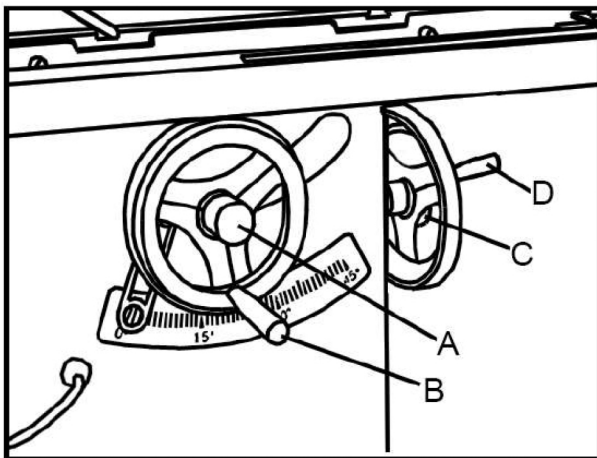

Fig.21
To raise or lower the blade, loosen lock knob (A) As Fig 21 and turn the raising handwheel (B). When desired height is obtained, retighten lock knob. The blade should be raised 1/8" to 1/4" above the top surface of the material being cut. With hollow ground blades the blade should be raised to the maximum to provide chip clearance. To tilt the saw blade, loosen lock knob (C) and turn tilting handwheel (D). When desired angle is obtained, retighten lock knob. See **Fig.21**.